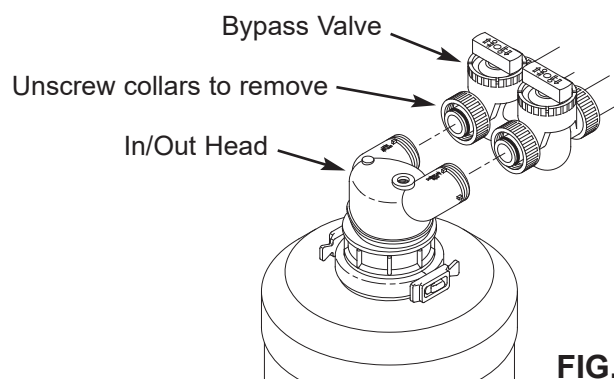

FIG. 8
2. Slowly loosen the installation collars between the bypass valve and in/out head (See Fig. 8), allowing pressure to escape from system.